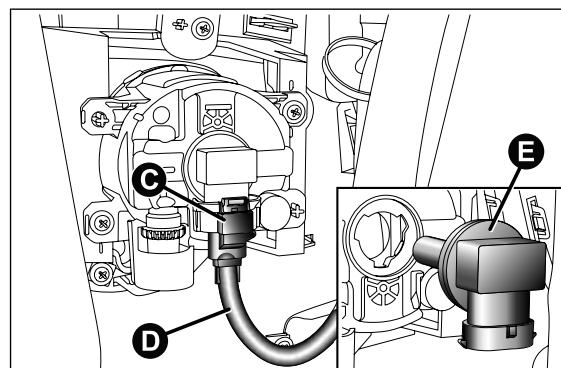

fig. I 26
- ☐ adjust the catch C fig. I 26 and disconnect the electrical connector D;